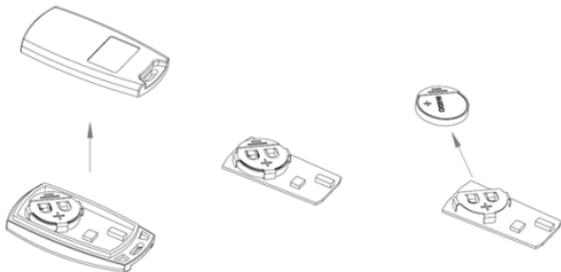

Fig. 2
- Remove the old batteries and insert two new CR2016 batteries (see Fig. 2)